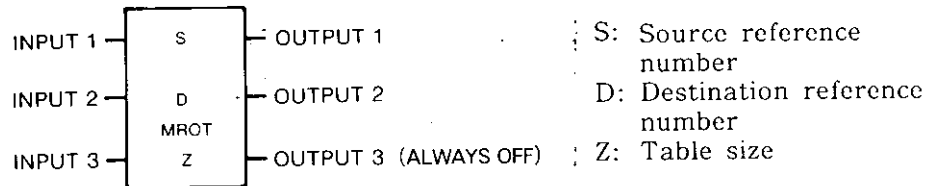

Fig. 5.88 MROT General Form
- Fig. 5.88 shows the form of multi-rotate.